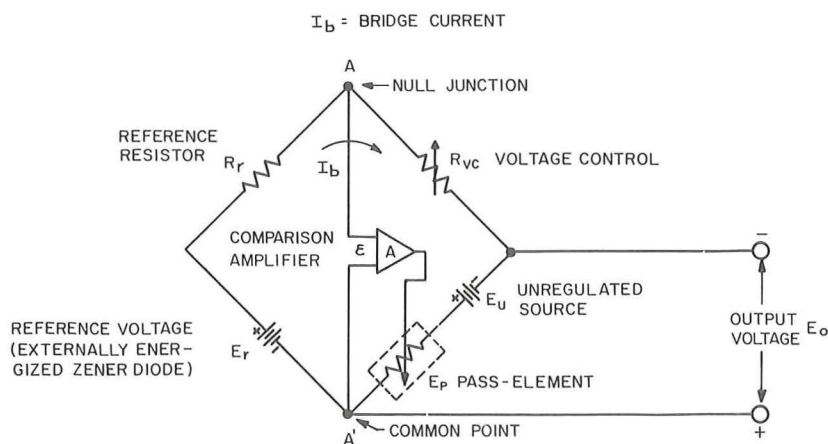

FIG. 3-3 KEPKO POWER SUPPLY CIRCUIT WITH COMPARISON BRIDGE (SIMPLIFIED)
- 3-9 GENERAL. A few general remarks may be in order to familiarize the user of this equipment with the terminology and basic equations pertaining to remote programming of Kepco Power Supplies. Electrically, the power supply, consists of the unregulated DC source (E_U), the pass element (E_P), the DC error amplifier (A) and a comparison circuit which resembles a four-arm electrical bridge. (Refer to FIG. 3-3). The elements of the bridge are arranged to produce a virtual zero at the amplifier input when the bridge circuit is at balance ($V_{AA'} = 0$). Any tendency for the output voltage to change in relation to the reference voltage (E_R) creates an error signal (ϵ) which, by means of negative feedback and the amplifier, tends to correct the output voltage towards restoration of bridge balance.